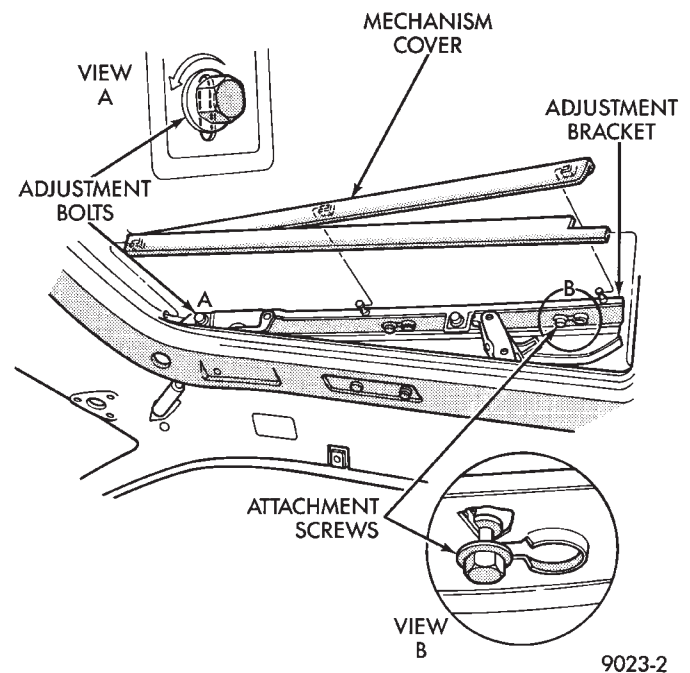

Fig. 3 Glass Height Vertical Adjustment
- (1) Remove wind deflector, mechanism covers and glass panel.
- (2) Move glass carriage to vent position and remove rearward adjustment bolt from adjustment bracket.
- (3) Lift rear of adjustment bracket to highest vertical position and disengage front of bracket from unit (Fig. 3).
- (4) For installation reverse the preceding operation. Adjust glass, and wind deflector as necessary.